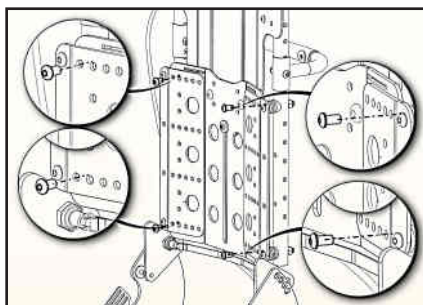

Fig. 40
6. On the seat back pan, remove the four adjustment bolts connecting the side pans with the center pans. Fig. 40